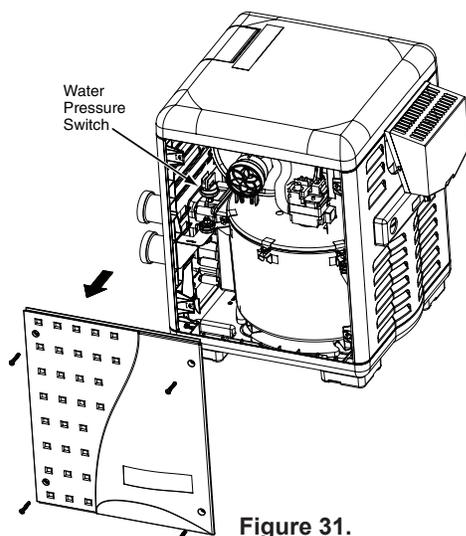

Figure 31.
1. Remove the four corner wing nuts that secure the top panel. Lift the top panel upward to remove the top panel. Note: If needed, remove the wires from the control board if the top is removed completely. **See Figure 31.**